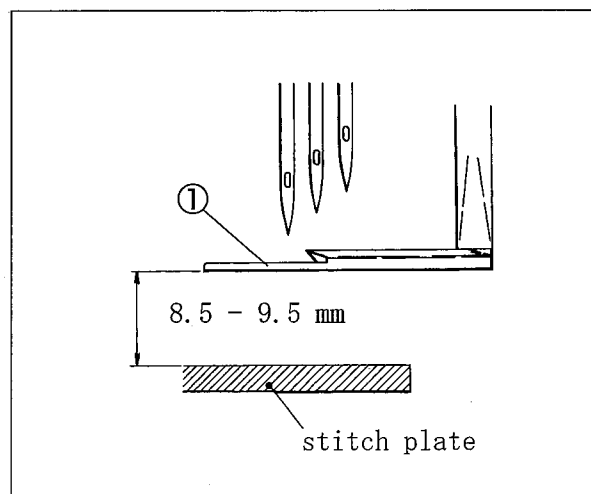

Fig. 44
- (4) Make the height from the top of the stitch plate to the bottom of the spreader to 8.5 - 9.5 mm. Then tighten the screw ③ securely. (Fig. 44, 45)